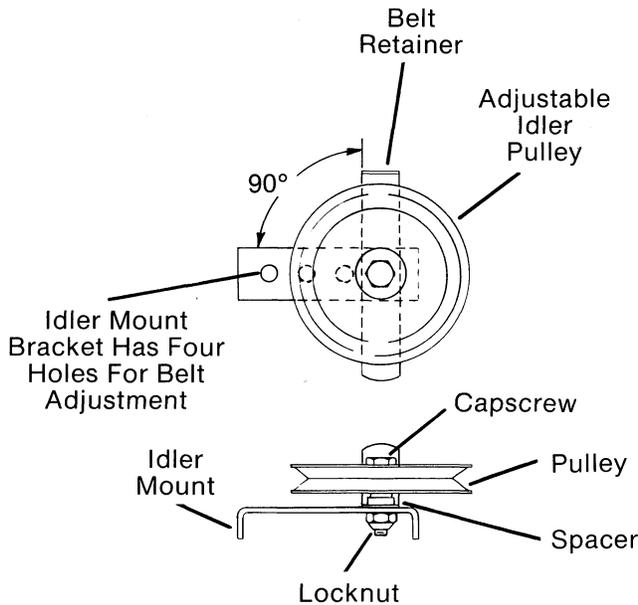

FIG. 18
- D. Remove locknut on bottom of capscrew holding adjustable idler pulley to pulley bracket. (Fig. 18)
IMPORTANT: Note which hole the adjustable idler pulley is presently mounted through on the pulley bracket. There are **four** hole positions that the idler pulley can be mounted in. (Fig. 18)
NOTE: Before tightening hardware, be sure belt retainer is positioned 90° from pulley bracket, as shown in (Fig. 18)
- C. Remove locknut and capscrew holding adjustable idler pulley to pulley bracket. (Fig. 18) Work belt off, between idler pulley and belt retainer.
NOTE: Before tightening hardware on idler pulleys, be sure belt retainers are positioned 90° from pulley bracket and clutch idler arm as shown in (Figs. 18 and 20).